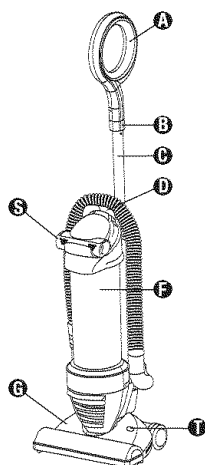

FIG. 1
- Ⓐ Handle grip (FIG. 1)
- Ⓑ Cord retainer (FIG. 1)
- Ⓒ Handle tube (FIG. 1)
- Ⓓ Hose holder (FIG. 1)
- Ⓕ Dust cup (FIG. 1)
- Ⓖ Floor nozzle (FIG. 1)
- Ⓢ Power Paw™ turbo brush (on some models) (FIG. 1)
- Ⓣ Check brushroll light (FIG. 1)
- Ⓐ Agarradera del mango (FIG. 1)
- Ⓑ Retén para el cordón (FIG. 1)
- Ⓒ Tubo del mango (FIG. 1)
- Ⓓ Sostén de la manguera (FIG. 1)
- Ⓕ Recipiente para polvo (FIG. 1)
- Ⓖ Boquilla para pisos (FIG. 1)
- Ⓢ Cepillo turbo Power Paw™ (en algunos modelos) (FIG. 1)
- Ⓣ Luz de control del cepillo giratorio (FIG. 1)